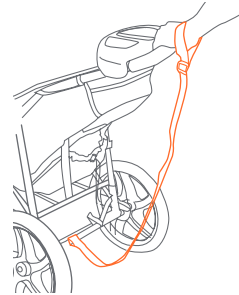
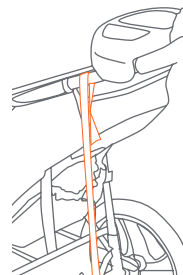

Fig. 21a
Fig. 21b
21) • SAFETY WRIST STRAP: Always connect the safety strap to either wrist when jogging. This strap will keep the stroller from rolling away in the event that you trip while running (Fig. 21a). The safety strap must remain connected to the rear lower frame cross member at all times. This location is intended to prevent the stroller being tipped backward in the event that you do fall to the ground. The safety strap includes an attachment for storage, on the left side of the stroller, when not in use (Fig. 21b).